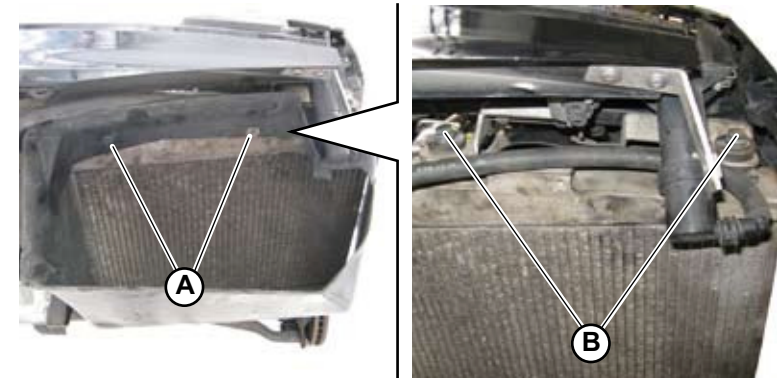

Fig.7
To remove the air conveyor panel, loosen the 2 screws (**D-Fig.7**).
1. Loosen the 2 screws **(A-Fig.7)** securing the air conveyor to the left cooling circuit radiator.
2. Loosen the 2 top screws **(B-Fig.7)** to release the left cooling circuit radiator; if necessary, also loosen the 2 bottom screws.